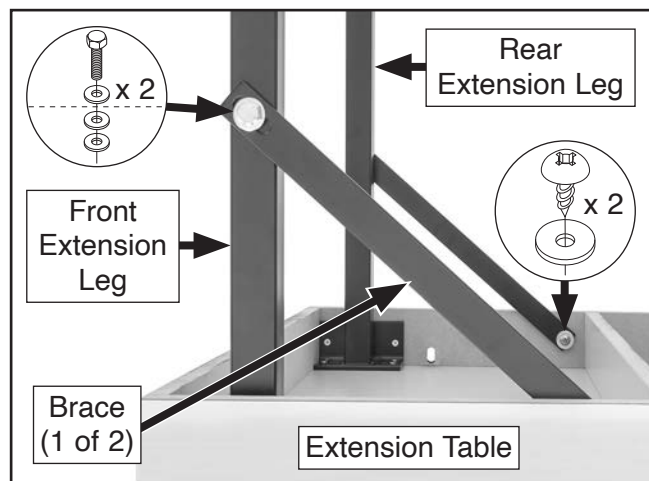

Figure 24. Braces attached to front leg, rear leg and extension table.
10. Secure braces to extension table and each extension leg using (2) $\frac{3}{8}$ "-16 x $\frac{3}{4}$ " hex bolts, (6) $\frac{3}{8}$ " flat washers, (2) $\frac{1}{4}$ " x $\frac{3}{4}$ " tap screws and (2) $\frac{1}{4}$ " fender washers (see **Figure 24**).